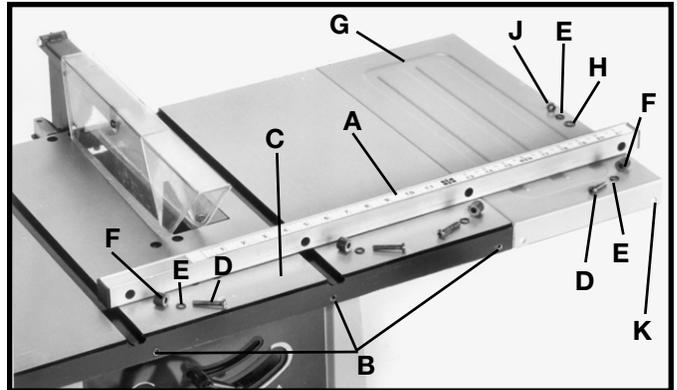

Fig. 20
1. Loosely fasten guide rail (A) Fig. 20, to three threaded holes (B) in saw table (C) using three 1/4-20 x 1-1/4" long screws (D), 1/4" lockwashers (E), and spacers (F). **IMPORTANT: Spacers (F) Fig. 20, are positioned between guide rail (A) and saw table (C).**
2. Fasten guide rail (A) Fig. 20, to extension wing (G) through hole (K) using the 1/4-20 x 1-1/4" long screw (D), 1/4" lockwasher (E), spacer (F), 1/4" flat washer (H), 1/4" lockwasher (E), and 1/4-20 hex nut (J). Then tighten all guide rail mounting hardware.
**IMPORTANT: Spacer (F) Fig. 20, is positioned between guide rail (A) and extension wing (G).**